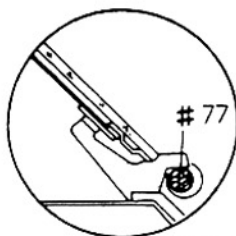

fig 4-1
- ① can be adjusted by rotating Pin (#77). (fig. 4-1)